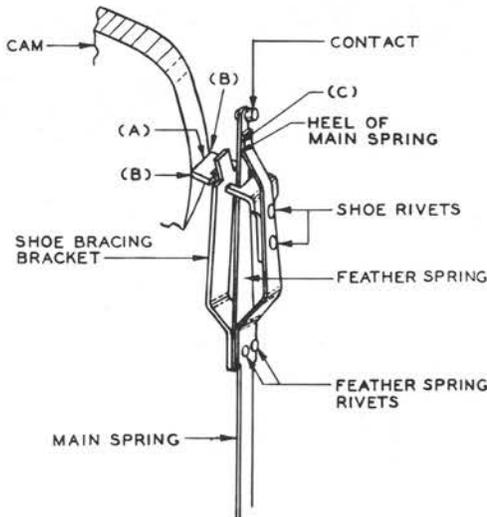

Fig. 11—Position of Shoe on Cam Assembly With Shoe Bracing Bracket
- (a) Each mainspring shoe edge [Fig. 11, (A) and 12, (A)] shall rest flat when bearing on the low portion of the cam. Gauge by eye using the P-220366 or R-2965 mirror.
- (b) The shoe sides [Fig. 11, (B) and 12, (B)] shall be wholly within the cam surface and clear the cam sides by approximately 0.020 inch.
- (a) **Spring Assembly With Shoe Bracing Bracket:** The feather spring shall rest approximately flat against the full length of the end of the mainspring, never against only the heel of the mainspring [Fig. 11, (C)]. Gauge by eye.